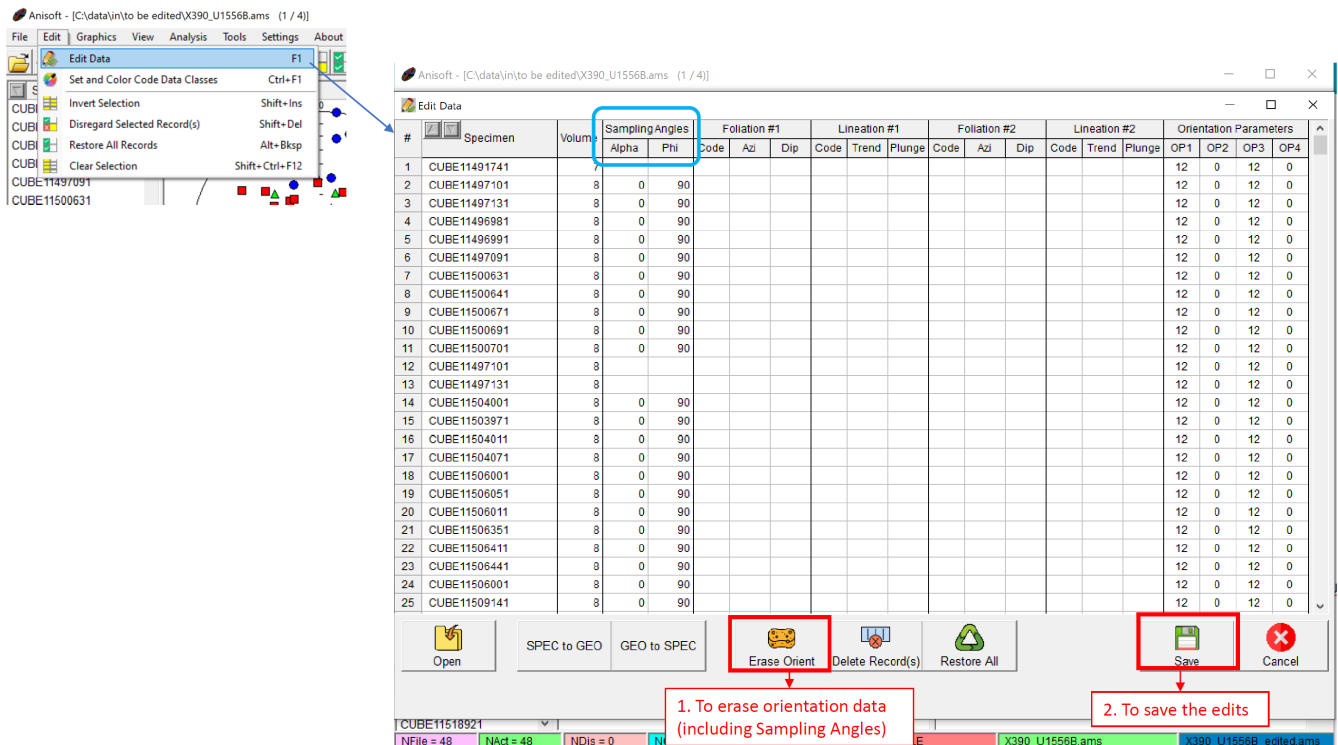

Figure 43: Edit Data window in Anisoft5
3. Select **Edit>Edit Data**. Make the desired changes in the table (every cell is editable) then click **SAVE** (Figure 43).